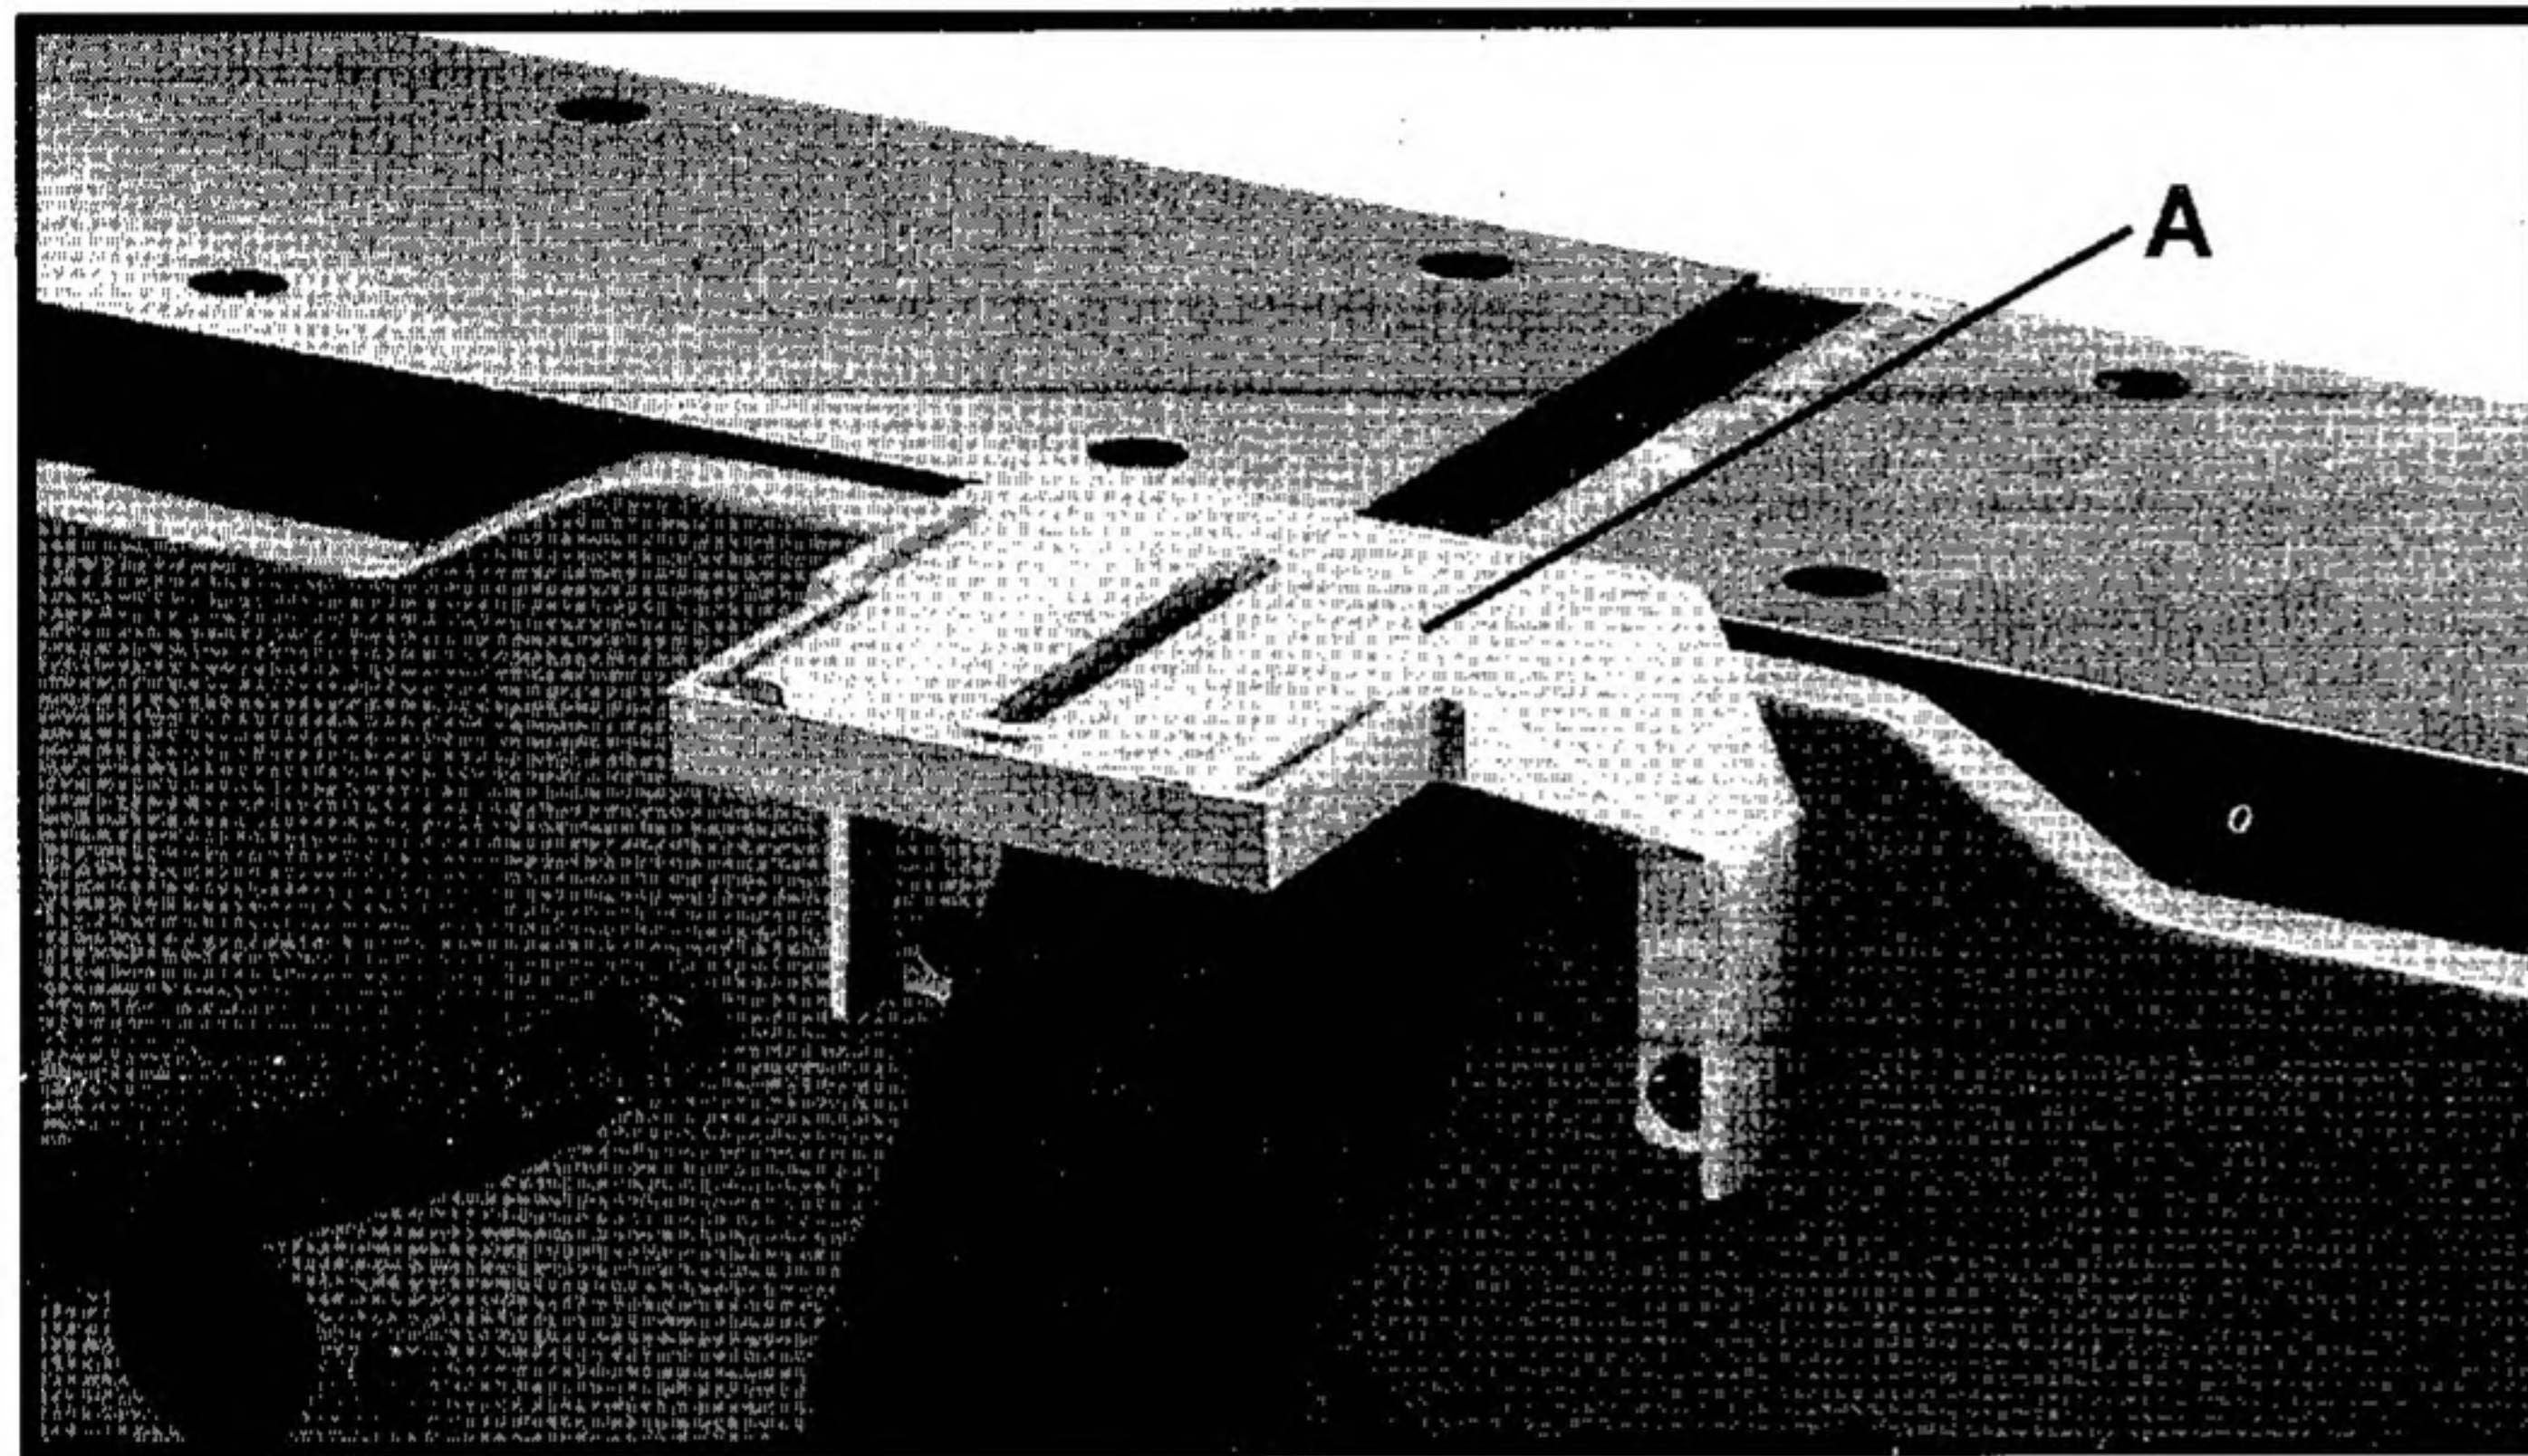
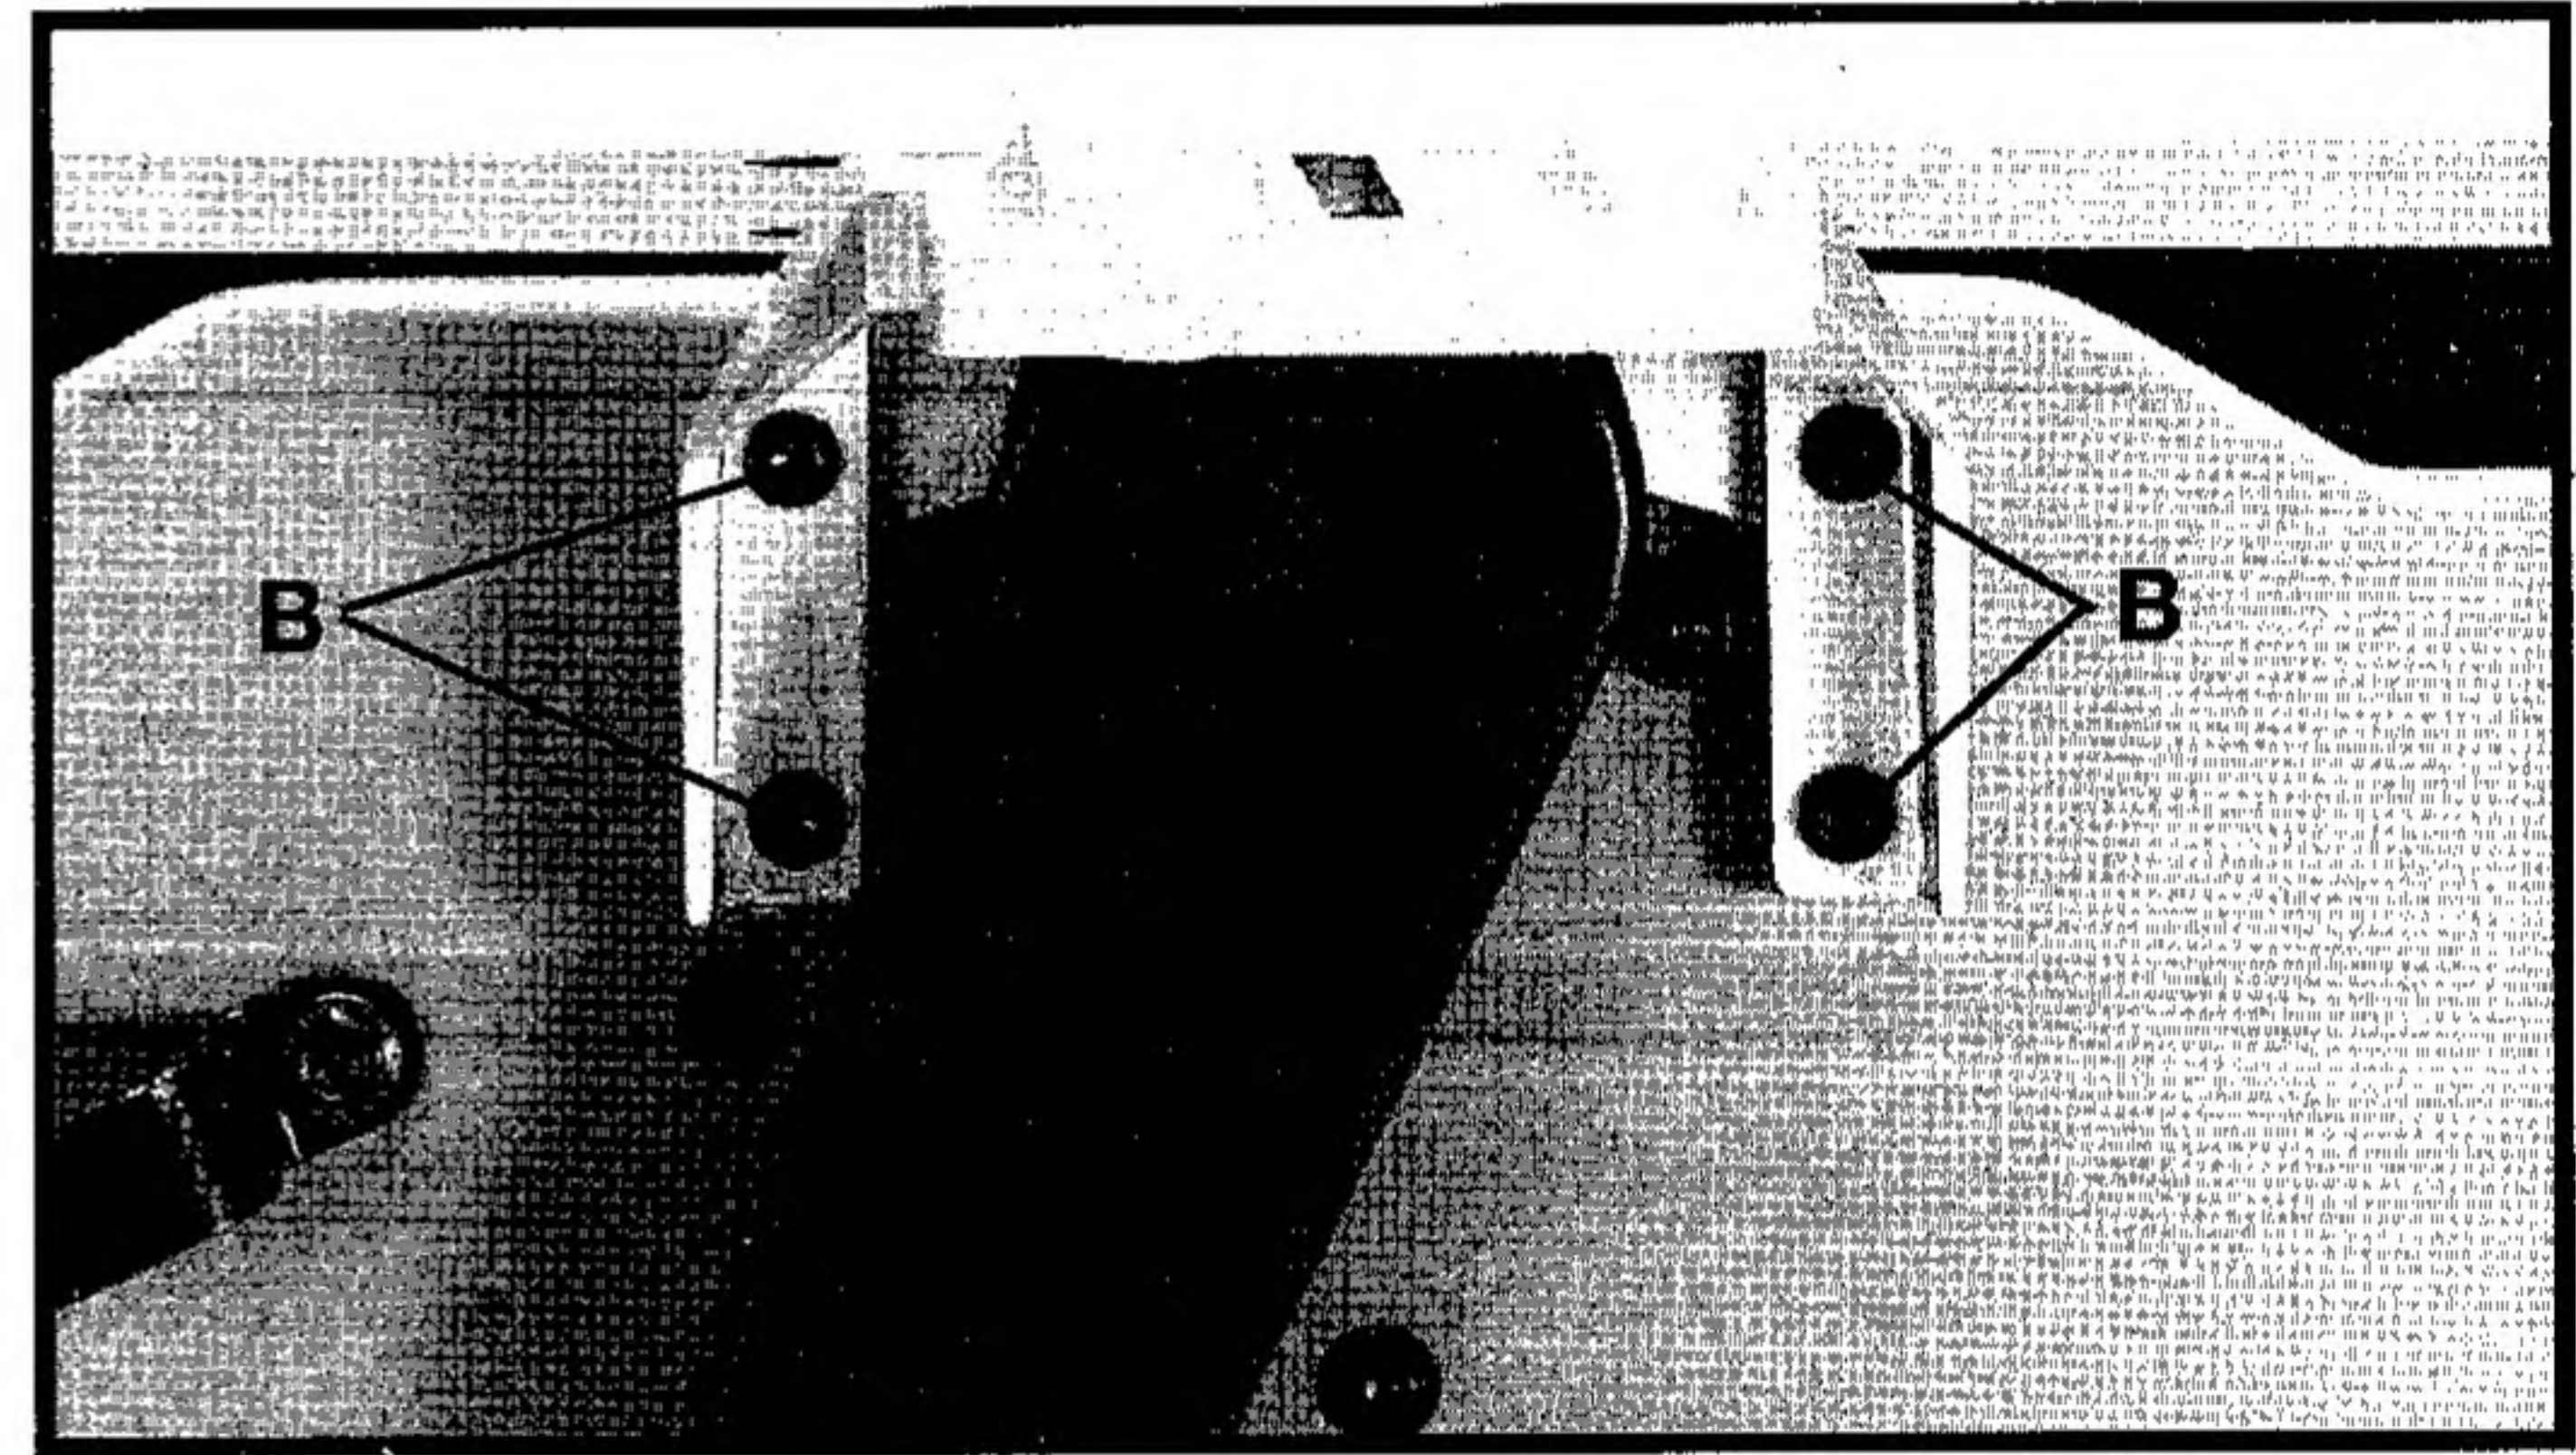

Fig. 5
Fig. 6
1. Assemble the fence mounting bracket (A) Fig. 5 to the jointer base using the four M6x1x16mm button head screws (B) Fig. 6.